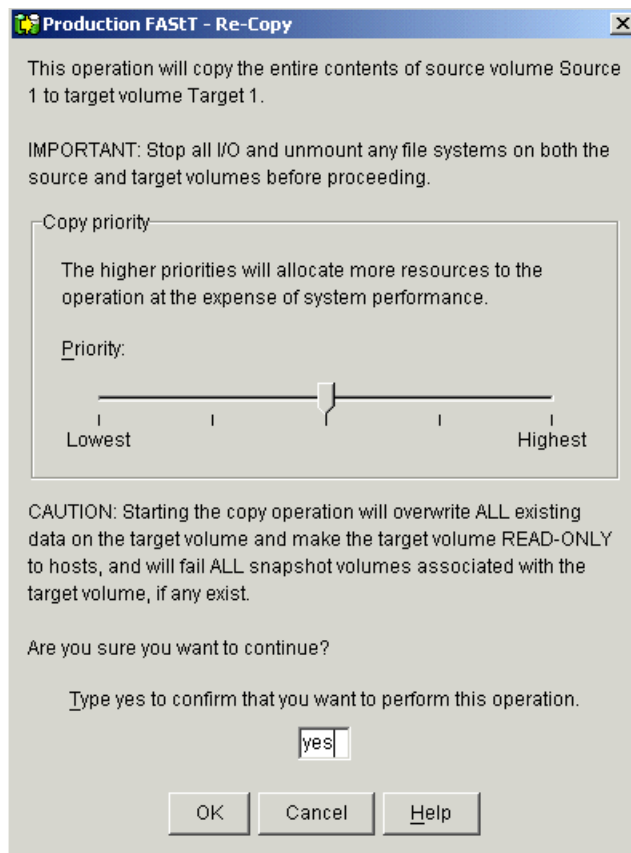

Figure 9-16 Re-copy window
5. Select either the **Copy -> Re-Copy** pull-down menu option, or **Re-Copy** from the right-mouse pop-up menu. The Re-Copy dialog is displayed (Figure 9-16).